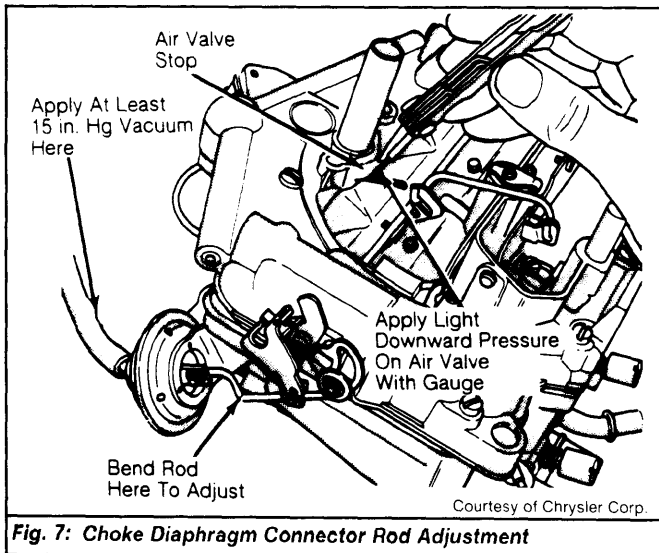

Fig. 7: Choke Diaphragm Connector Rod Adjustment
1) Ensure diaphragm is securely mounted to carburetor. Using an outside vacuum source, apply at least 15 in. Hg vacuum to diaphragm. Ensure diaphragm stem is fully seated. See Fig. 7.